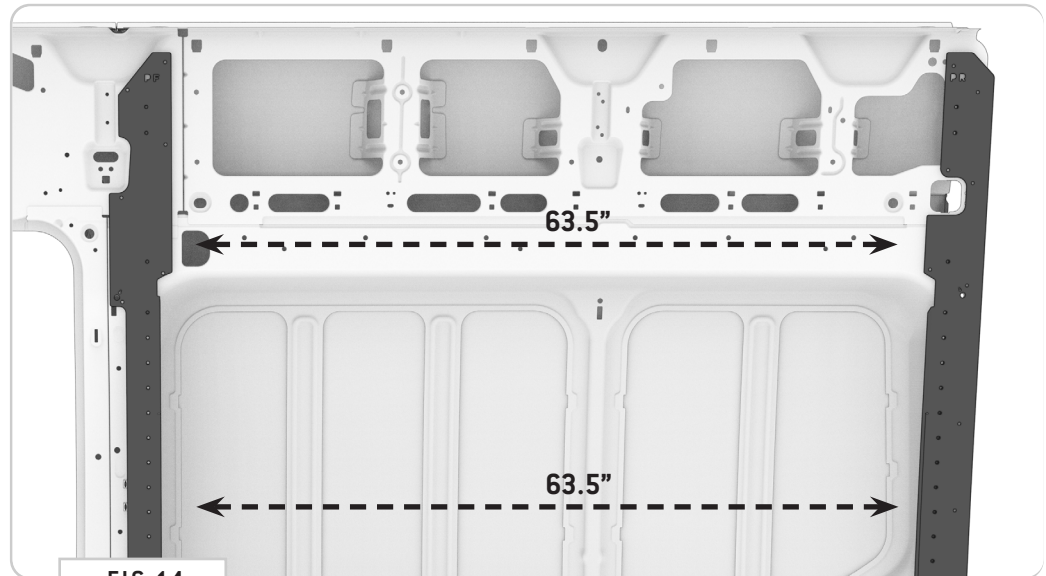

FIG 14
5.1 Measure Bracket Spacing: Once you have the clearance holes drilled, you'll need to resecure the **Bed Brackets** and confirm that the distance between rail mounting points are square at 63.5" thread insert to thread insert (**FIG 14**).